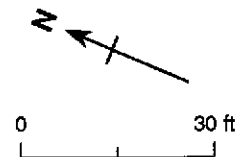

Figure 2. Monitoring Well Locations and Ground Water Elevation Contours - April 28, 1989 - Chevron Service Station #90076, Oakland, California
At the request of Chevron USA, Weiss Associates (WA) collected ground water samples from four monitoring wells on 28 April 1989 at operating Chevron Service Station #90076 in Oakland, California (Figure 1). About 0.01 feet of floating product was detected in ground water well C-2 (Figure 2). Total purgeable petroleum hydrocarbons (TPPH) were detected in concentrations greater than 1,000 parts per billion (ppb) in ground water samples from wells C-2 and C-4. Benzene was detected in concentrations above the California Department of Health Services (DHS) recommended action level for drinking water in ground water samples in all four wells, ethylbenzene was above DHS action levels in well C-2, and toluene and xylene was above DHS action levels in wells C-2 and C-3.
Water levels for all monitoring wells were measured on 28 April 1989. Top of casing elevations determined by previous investigators were used to calculate the ground water gradient and flow direction. Ground water elevations are presented in Table 1 and ground water elevation contours are plotted on Figure 2. The gradient appears unusually steep, with a ground water elevation difference of about 10 ft across the site.